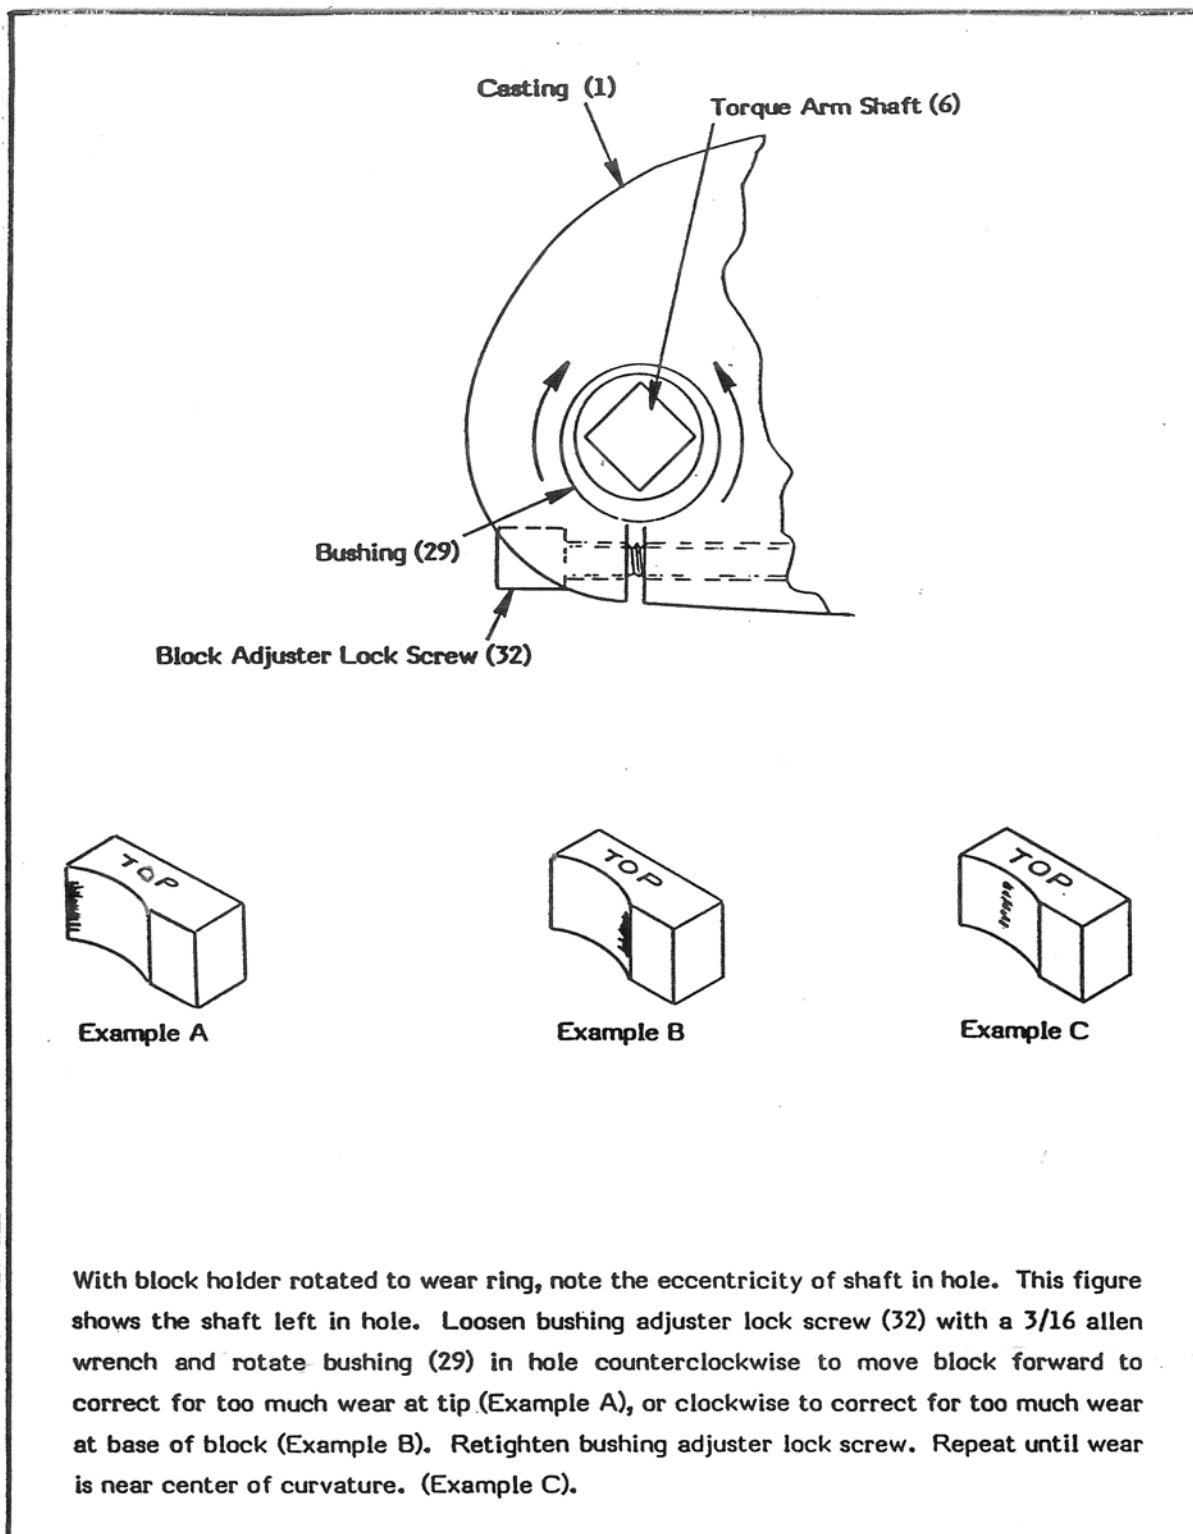

Figure 4 – Adjustment for Curvature of Lubricity Test Block
If the coefficient of friction value for water is not in the proper range, is drifting excessively, or has scoured surfaces, the ring and block surfaces must be reconditioned or standardized. If a block is standardized, it will have a substantial portion (at least 1/3) of its curved surface worn to a shined condition with a minimum of groove lines through this polished area, as seen in Fig. 4, Ex. C. Also, a ring-block calibration data sheet should be filled out and maintained for the pair. When the ring and block are engaged in the following procedures, no new wear surfaces should appear and no unexpected results occur using the pair.
- 5.2.2.1 Check to ensure all surfaces are clean and that the wear surface is in the middle or just forward of the curvature on the block (Refer to Fig. 4 Ex. C). If an adjustment is required, follow the procedure given in Fig. 4.